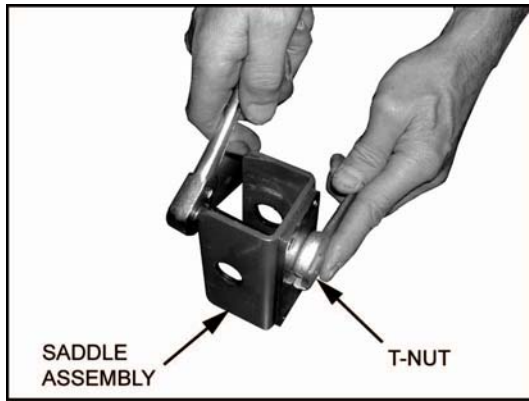

FIGURE 3-40
2. Refer to **Figure 3-40**. Unscrew and remove T-Nut from saddle assembly.